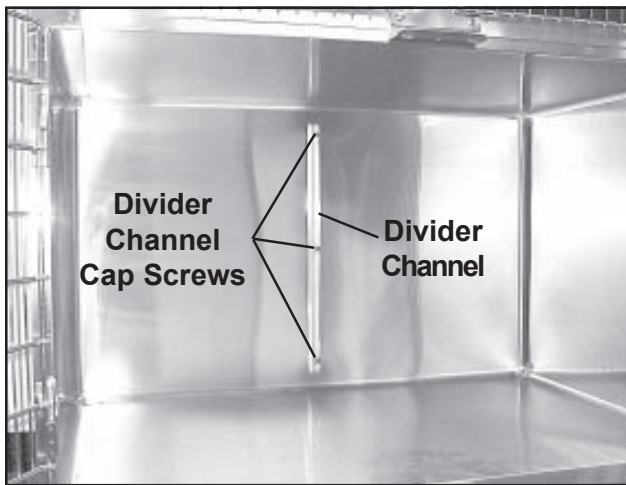

Figure 60. Cap Screws for Divider Channel (inside cage)
2. With a Phillips screwdriver and a 7/16 in. wrench, remove the three cap screws and nuts (Figures 60 and 61) that hold the divider channel in place and remove the channel.